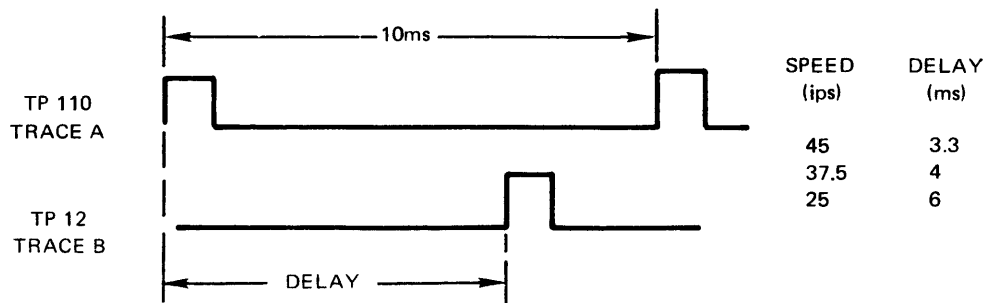

Figure 5-7. Read-After-Write Delay Time
- c. Observe positive-going read timing pulse at TP12 on trace B. This pulse should occur following write pulse on trace A by some delay determined by speed. See Figure 5-7 and Table 5-4. If not, adjust potentiometer R312 to obtain proper delay time.